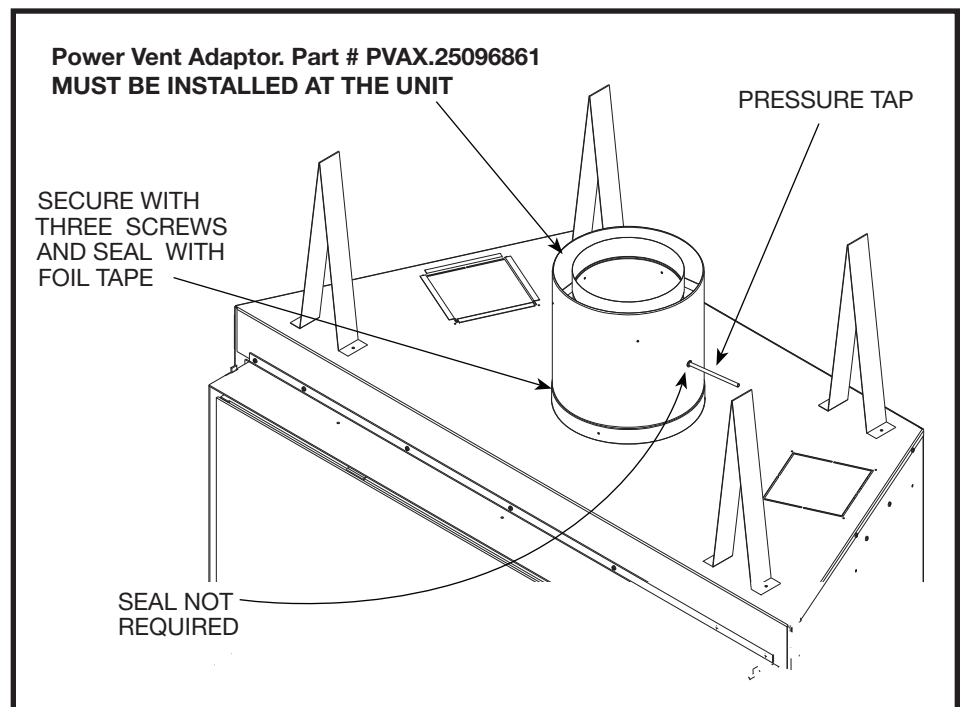
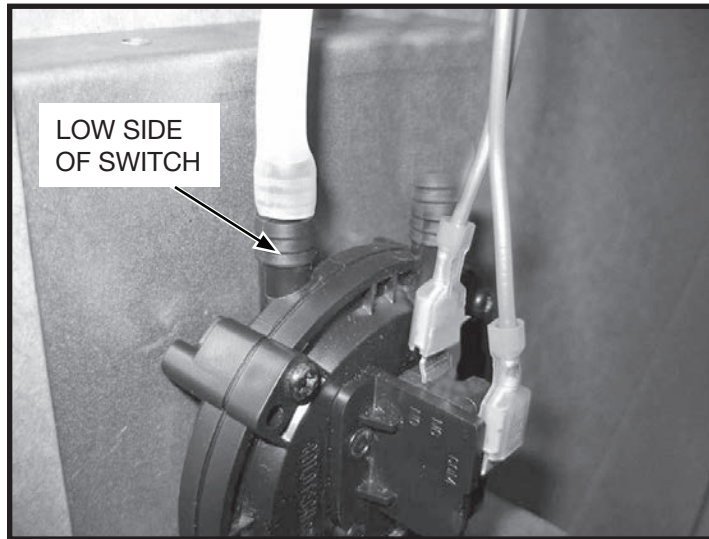

Figure 5: Power vent adaptor.
Figure 23: Switch sides.
6. Connect the high temperature silicone tube to the vacuum pressure tap on the adaptor, secure with the hose clamp provided and route the tube through any hole back to control box (Figure 5). Tube may touch unit and be trimmed if required.
Attach the silicone tube from the upper pressure tap on the power vent adaptor (Figure 5) to the “low” port of the pressure switch. (Figure 23).